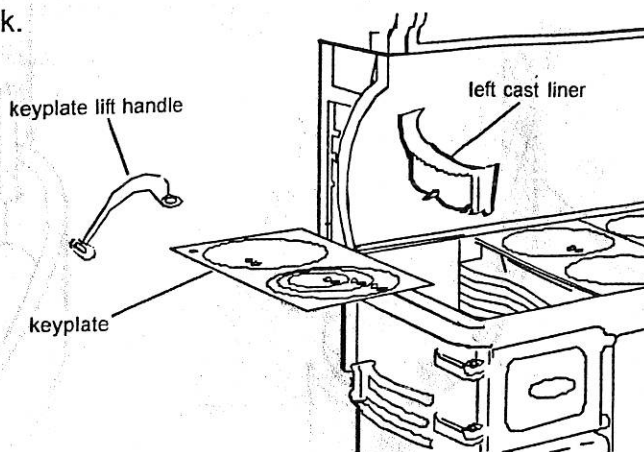

figure 1
1. Remove keyplate lift handle from keyplate, and lift out keyplate. (figure 1)